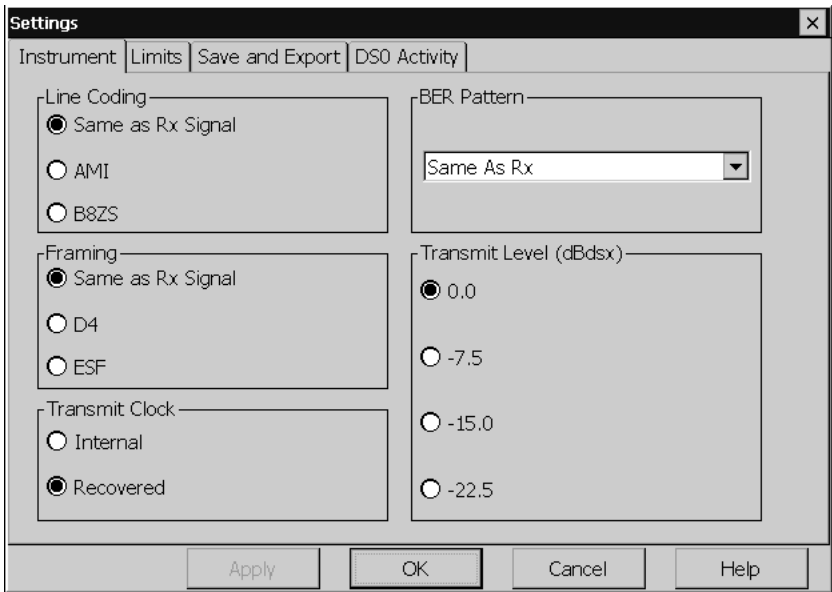

Figure 3–6: Instrument settings window
1. In the menu bar, select **Setup** > **Edit** to open the Settings window. See Figure 3–6.